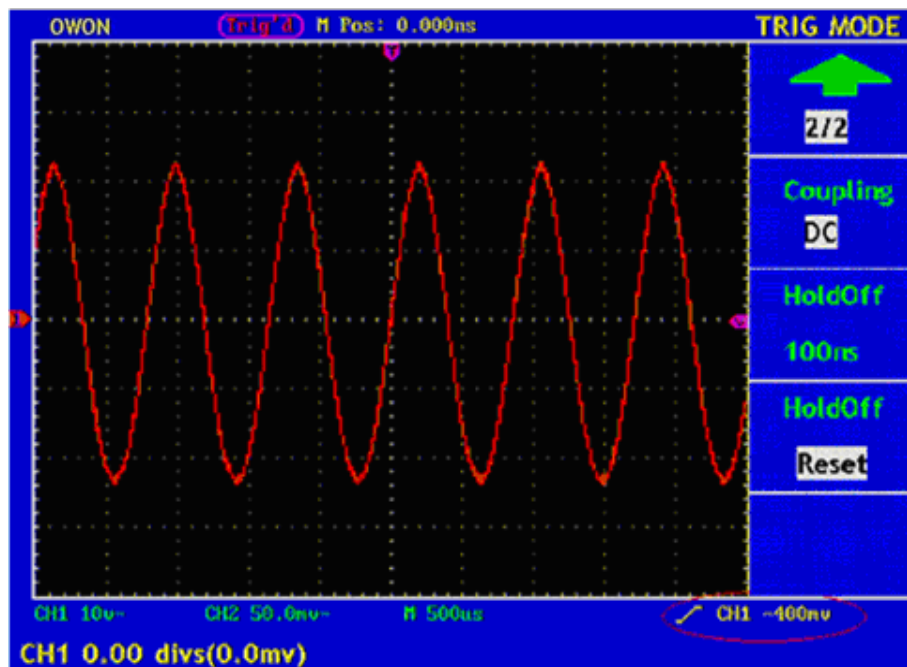

Fig.31 Wave Form Triggered on the Rising Edge
7. Press the **F2** menu selection button and choose DC for Coupling. The display in the screen is as Fig.31.